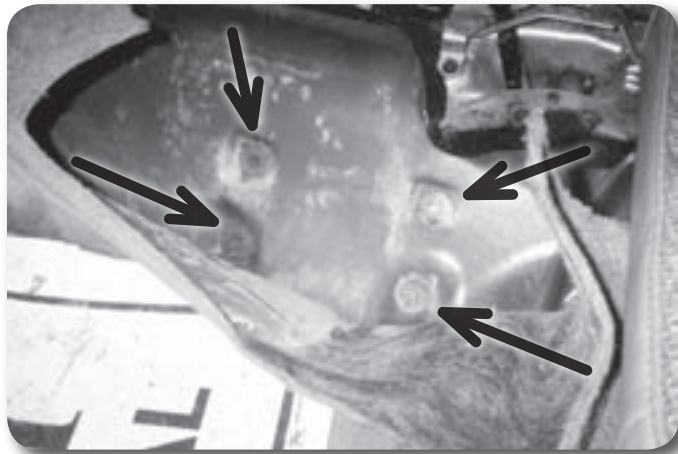

Figure 6
11. Pull back the carpet on the driver's side near the center console. Remove the four bolts with captive washers (Figure 6). This will free the transfer case linkage bracket from the underside of the body. Save hardware.